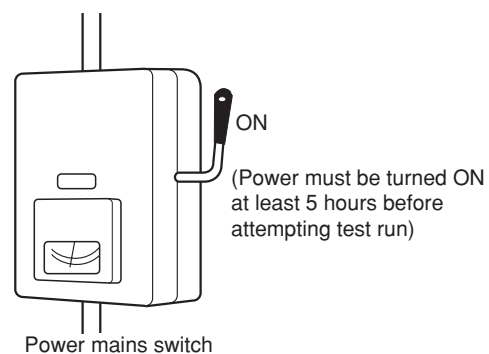

Fig. 10-1
- (1) All loose matter is removed from the cabinet, especially steel filings, bits of wire, and clips.
- (2) The control wiring is correctly connected and all electrical connections are tight.
- (3) The transportation pads for the indoor fan have been removed. If not, remove them now.
- (4) The power has been connected to the unit for at least 5 hours before starting the compressor. The bottom of the compressor should be warm to the touch and the crankcase heater around the feet of the compressor should be hot to the touch. (Fig. 10-1)